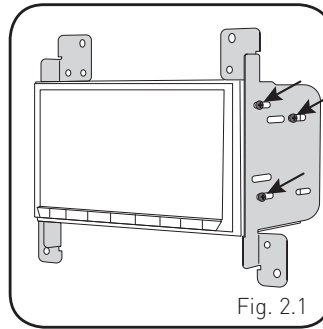

Fig. 2.1
- Mount the metal brackets to the aftermarket radio using the screws supplied with the radio. (Fig. 2.1)